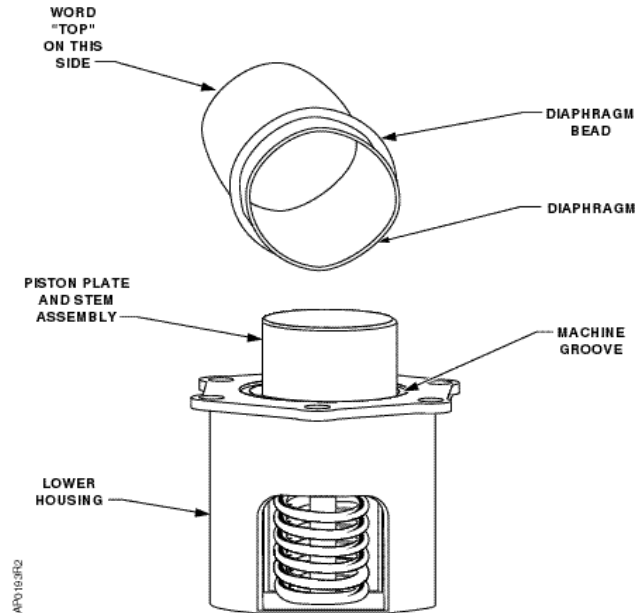

Figure 8.
5. Fold the new diaphragm the same way with the word "TOP" on the diaphragm surface toward the air chamber. See Figure 8.
7. Place the upper housing on the lower housing. Make sure the diaphragm bead fits in the machined grooves in the upper and lower housing. See Figure 8.